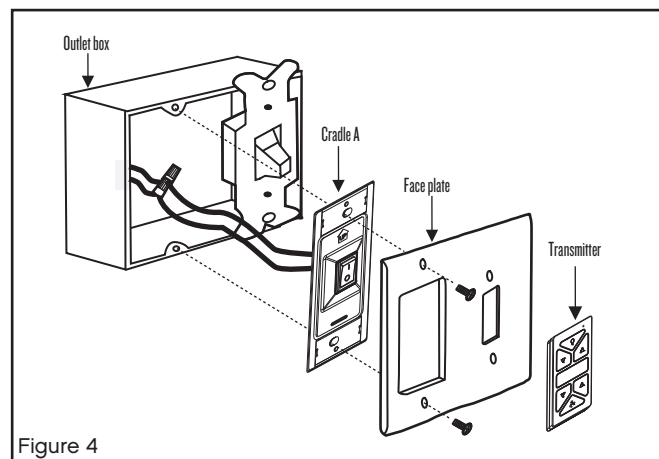

Figure 4
NOTE: The tab opposite hanger bracket opening should fit in slot on ball. (Fig. 4)
- 2 Connect the black lead wires from the switch in cradle A to the black wires in the switch box. Hot input wire to one of the cradle switch leads. Power lead to the fan is connected to the remaining switch lead. (Fig. 4)
An UPWARD airflow moves warmer air off the ceiling area as shown in Figure 4. This allows you to set your heating unit on a cooler setting without affecting your comfort.